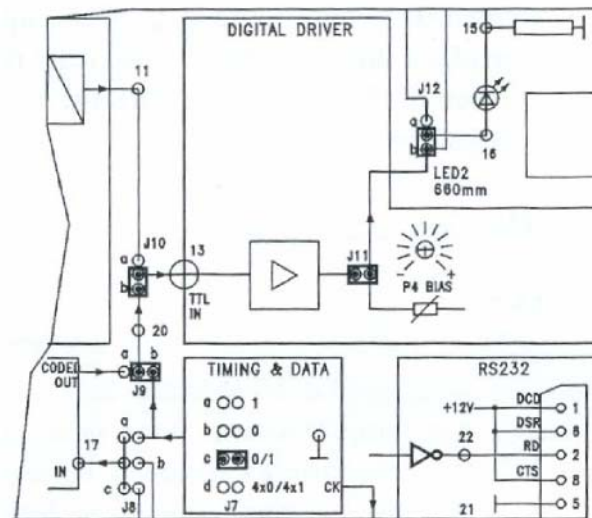

Figure 1
- Disconnect the jumpers j 11 -j 12 and connect the jumper j 1 3b, so to produce the circuit of fig 1. The configuration includes the LED at 820 nm, forward biased with the BIAS trimmer (P4). Turn p4 completely to the right (maximum bias voltage)